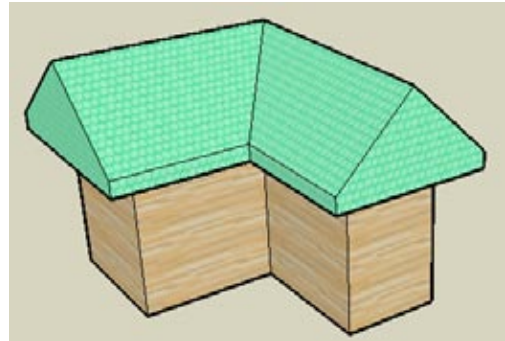

Figure 3-2
1. Start with an L-shaped house and roof like the model shown in Figure 3-2. You can create your model from scratch or download my Chimney House model from the 3D Warehouse.